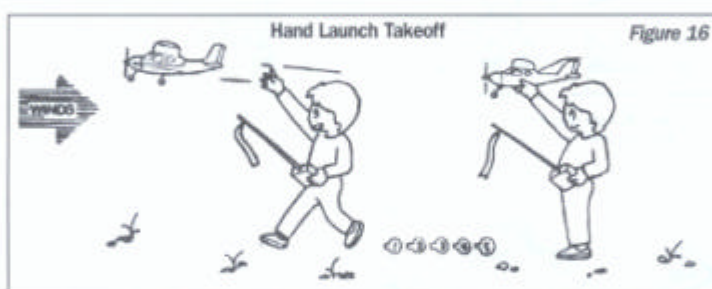

Figure 16
3. Step forward quickly four or five steps, keeping the wings as level as possible with the aircraft pointed into the wind. You'll feel the airplane actually try to rise up out of your hand. Give the plane a firm, level toss forward as you walk (in a smooth motion). **Do not throw the airplane!** Release the airplane straight and level with the ground, **do not** release it with the nose pointed upward. The plane will begin to climb upon release. (See **Figure 16**)